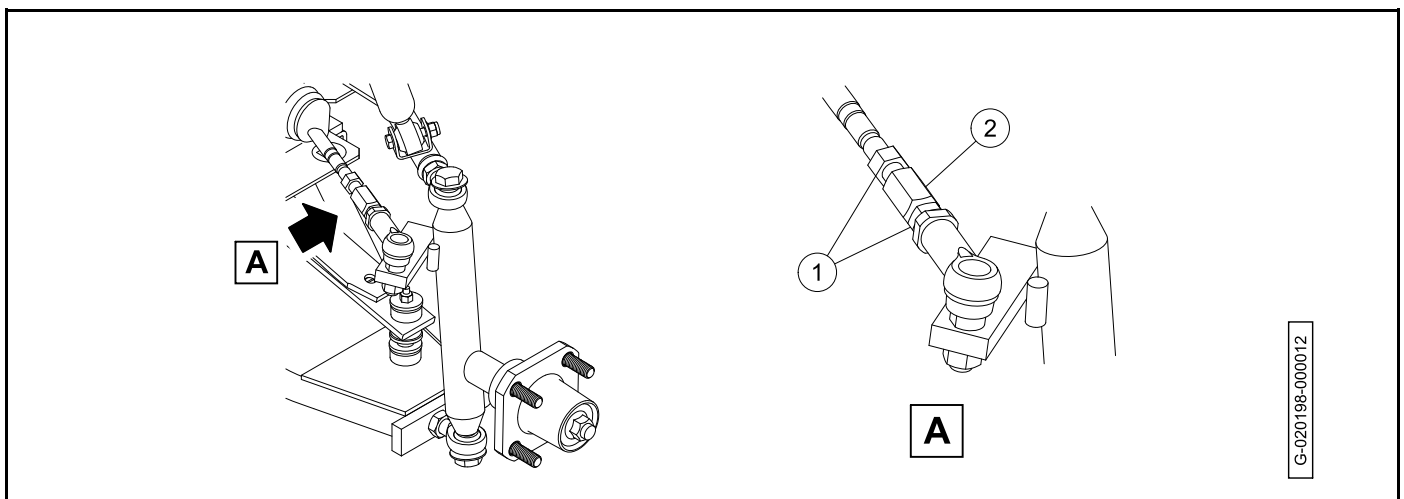

Figure 7-19
- Loosen the jam nuts on both ends of each tie rod end on the steering rack (**Figure 7-19, Page 7-15**).